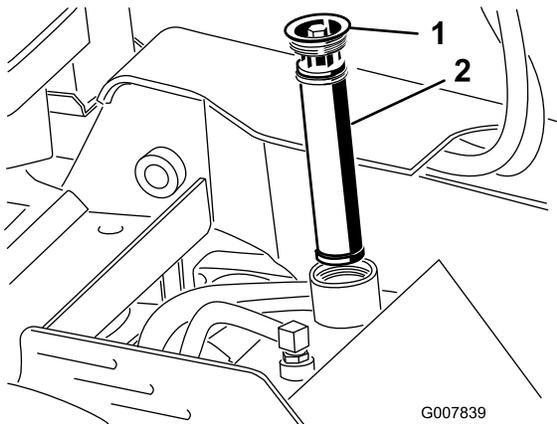

Figure 58
5. Remove and discard the old filter (Figure 58).
6. Install the replacement hydraulic filter and filler cap (Figure 58) and torque bolt on top to 110 to 140 in-lb (13 to 15.5 N-m).
6. Remove the hydraulic tank filler cap and filter (Figure 58).
12. Install the hydraulic filter and filler cap (Figure 58) and torque bolt on top to 110 to 140 in-lb (13 to 15.5 N-m).